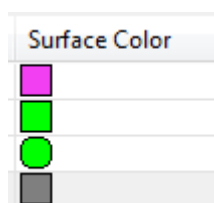

Figure 3. Surface color column with specified colour
- The specified colour square appears in the selected column cell (see Figure 3).